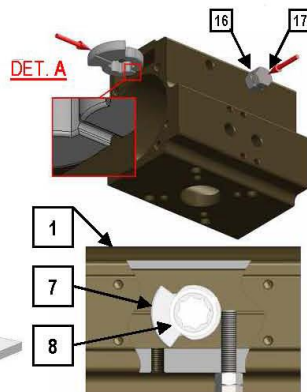

Fig.14
3. Screw down one adjustment screw (17) with nut (16) in the right adjustment hole of the cylinder (1) and let the cam (7) with ring (8) slide down on the guiding rail on the cylinder (1) (see detail. A Fig.14) until it stops against the screw;